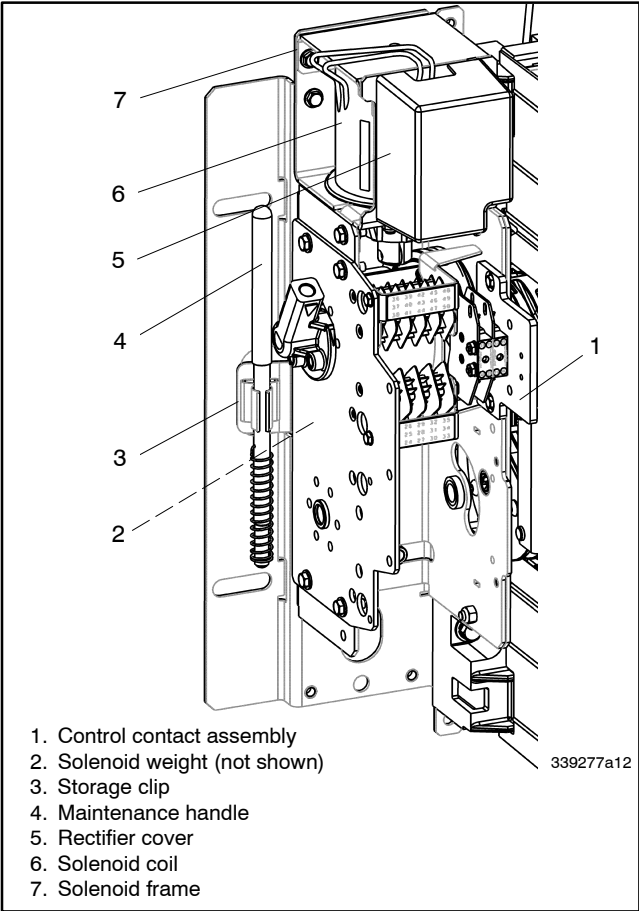
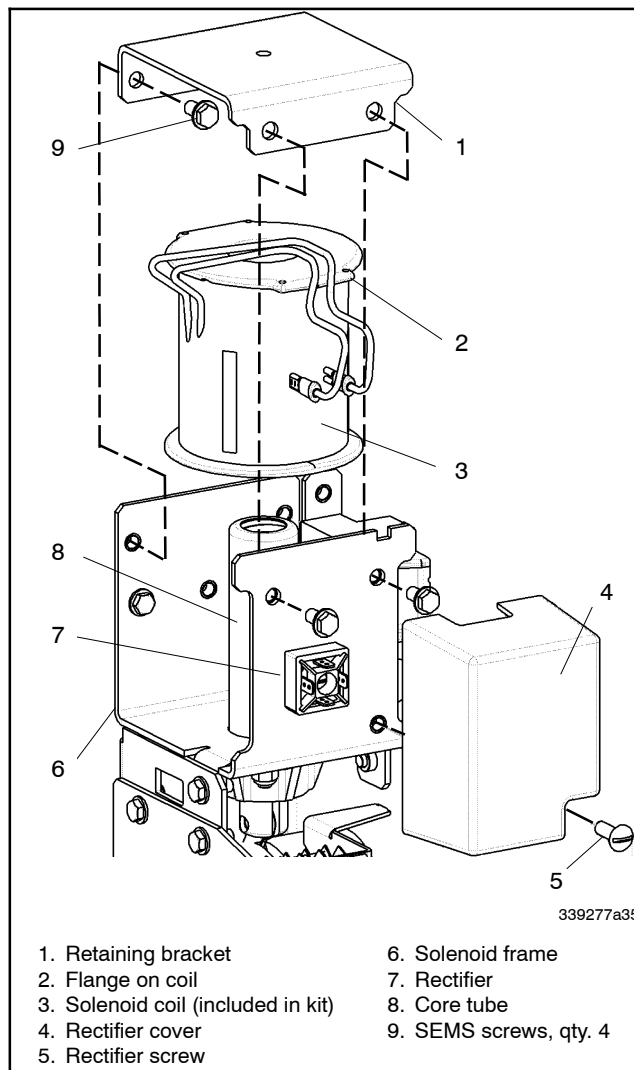
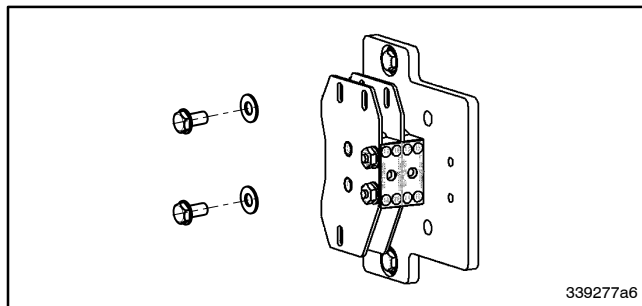

Figure 7-3 Solenoid Operator Assembly
Figure 7-8 Solenoid Coil
Figure 7-15 Coil Control Contact Kit
2. Install the maintenance handle. Locate and remove the maintenance handle from clips on the left side of the transfer switch frame. Insert the handle into the molded hub on the left side of the operator. See Figure 7-3, Figure 7-4, and Figure 7-5.
1. Remove the rectifier cover and disconnect the coil leads. Using a blade screwdriver and turning in a counterclockwise direction, loosen one screw (do not remove it) and remove the rectifier cover. Disconnect the two coil leads from the rectifier. See Figure 7-3 and Figure 7-8.
2. Remove the solenoid retaining bracket and the coil. Use a 3/8 in. socket, open-end, or box wrench to remove four SEMS screws from the solenoid retaining bracket. Remove the bracket from the top of the solenoid. Remove the solenoid coil by pulling it upward (off the core tube) and out of the frame. See Figure 7-8.
3. Install the new solenoid coil. Position the new replacement coil so that the flange end is on top and the coil leads are on the left side. Install the coil (in this position) into the frame by pushing it downward (onto the core tube) and into the frame. Secure the coil by reinstalling the solenoid retaining bracket. Use a 3/8 in. socket, open-end, or box wrench to install four SEMS screws. Tighten the screws to 7.5 Nm (5.5 ft. lb.) torque. See Figure 7-3.
4. Connect the new coil and reinstall the rectifier cover. Install the quick-connect coil leads onto the rectifier terminals (DC). Install the rectifier cover onto the top of the solenoid frame. Use a blade screwdriver to tighten the screw. See Figure 7-3 and Figure 7-8.
2. Remove the rectifier cover and disconnect the two wires. Use a blade screwdriver to loosen one screw and remove the rectifier cover. Disconnect the two wires coming into the solenoid assembly from the harness. See Figure 7-8.
9. Install the new rectifier cover and connect the two wires. Connect the two wires from the harness (previously disconnected) to the rectifier terminals (AC). Then install the new rectifier cover onto the solenoid assembly. See Figure 7-8.
The coil control contact assembly (two pushbutton switches) is located below the solenoid operator on the left side of the transfer switch. See Figure 7-3 and Figure 7-15.